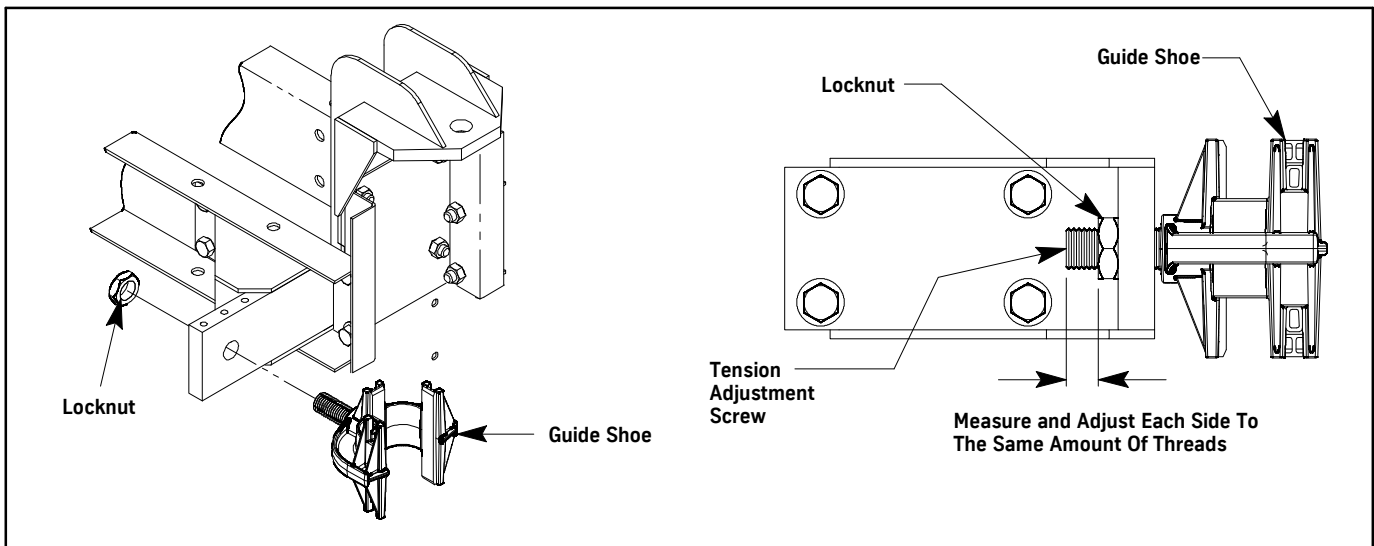

Figure 18 - Upper Guide Shoe Installation
1. Fasten the two upper guide shoes to the shoe mount weldment on the crosshead channel. See Figure 18.
6. Measure the amount of thread protruding past each locknut and adjust until both sides are equal to ensure equal spacing and tension. See Figure 18.